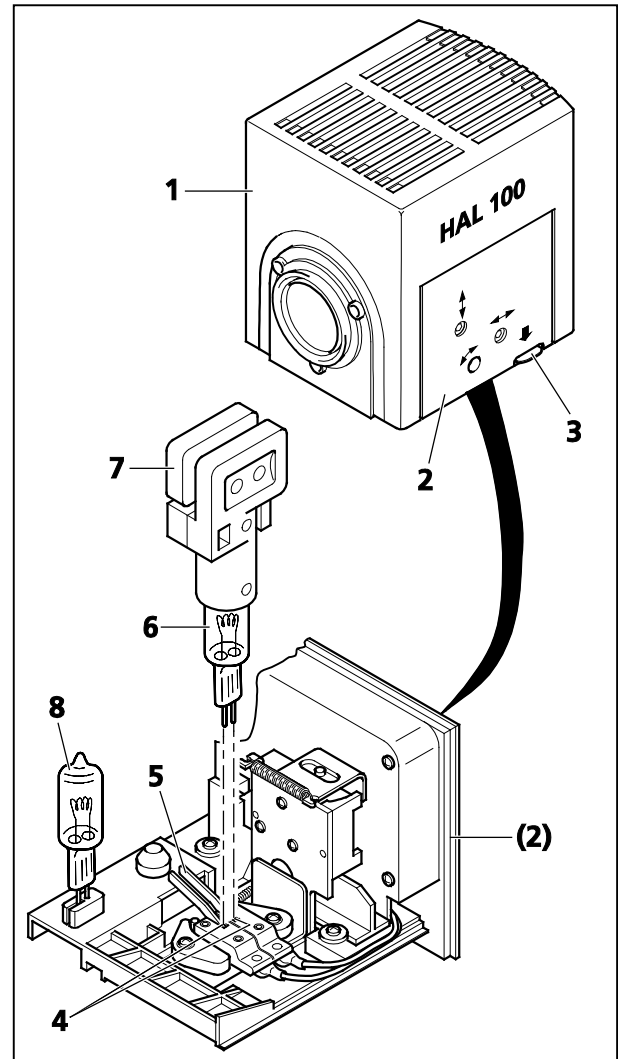

Fig. 47 Changing the halogen lamp
You do not need to remove the lamp housing from the stand to replace the halogen lamp. **Do not** store the supplied replacement tool (Fig. 47/7) for lamp replacement in the lamp housing while the illuminator is operating. The replacement lamp (Fig. 47/8) may remain fitted in the lamp housing.
- Depress unlock button (Fig. 47/3) of halogen illuminator HAL 100 (Fig. 47/1), extract lamp carrier (Fig. 47/2) fully and put it down separately.
- Depress both spring levers (Fig. 47/5) and remove the old halogen lamp (Fig. 47/6) upward.
- Depressing both spring levers, insert the new lamp in the lamp socket (Fig. 47/4) and release the spring levers. Always hold/grasp the halogen lamp by means of the replacement tool (Fig. 47/7), as even traces of grease on the lamp may affect its lifetime.